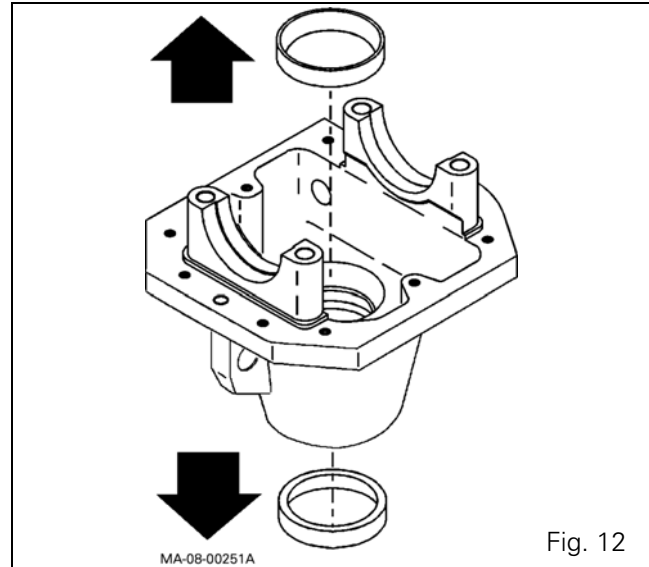

Fig. 12
17. Place the differential housing on a level surface as shown in Fig. 12 and extract the external cups from the roller bearing, using a drift or a hammer (Fig. 12).